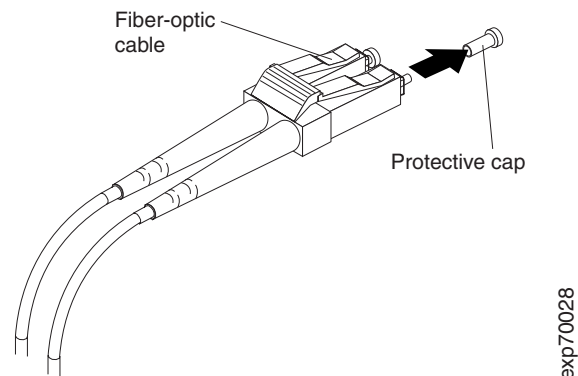

Figure 26. Removing fiber-optic cable protective caps
3. Remove the two protective caps from one end of the LC-LC cable, as shown in Figure 26. Save the protective caps for future use.